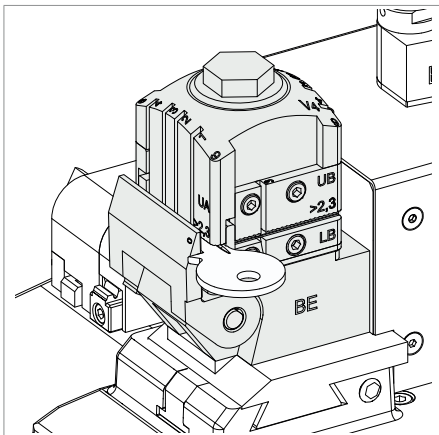

Fig. 126
- 2) Fit the template Z3 on side A of the clamp (**BE-V4 LA-UA**) with the stop all the way up against the gauge (Stop 0) (Fig. 126).